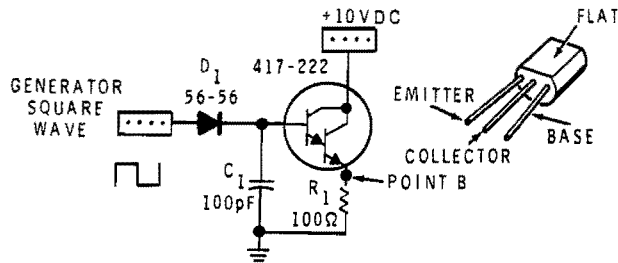

Figure 2-12
22. Construct the circuit shown in Figure 2-12.
The circuit in Figure 2-12 uses a Darlington transistor. The device is composed of two transistors connected together in one package. This makes it very convenient to use. Also, the Darlington transistor is usually more efficient than two separate transistors. In step 23, you should have recorded approximately 200 microseconds, which would be longer than the time you recorded in step 20. The time you recorded may be different, depending on the Beta tolerance of the Darlington transistor.